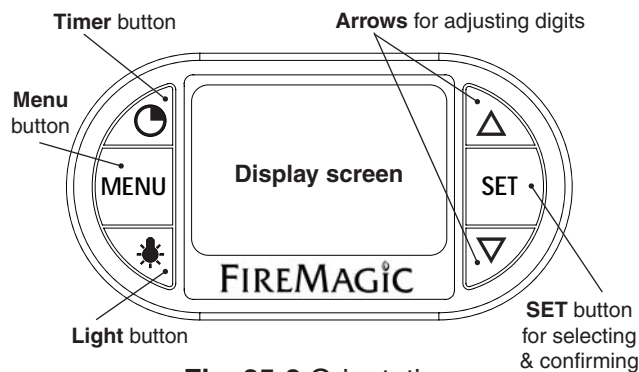

Fig. 25-2 Orientation
Read the following sections completely regarding thermometer operation. Refer to Fig. 25-2 for thermometer orientation and button locations.
1. Press the light button to turn both the interior lights and knob backlights ON (see Fig. 25-2). The interior lights will temporarily shut off when the hood is closed (except for Magic View models).